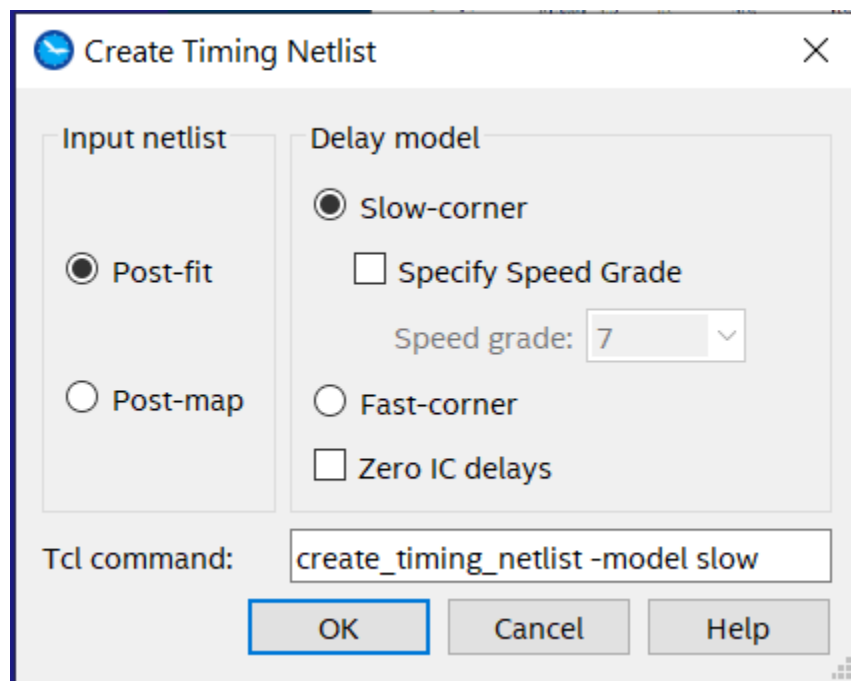

Figure 6
5. Choose default settings *Post-fit* and *Slow corner*, as shown in figure 6, and then click “OK”